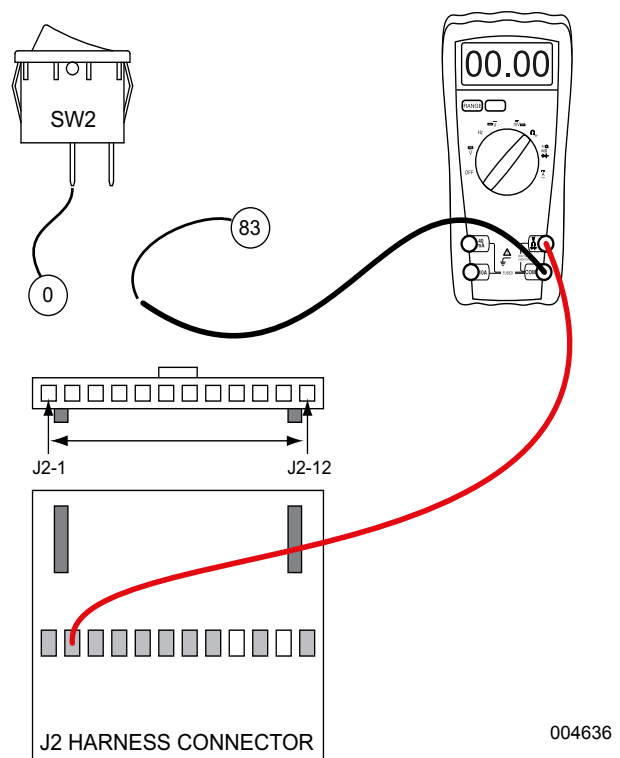

Figure 4-59. Check Idle Control Wiring
8. See **Figure 4-59**. Connect the other meter test lead to pin location J2-2 on the J2 connector.